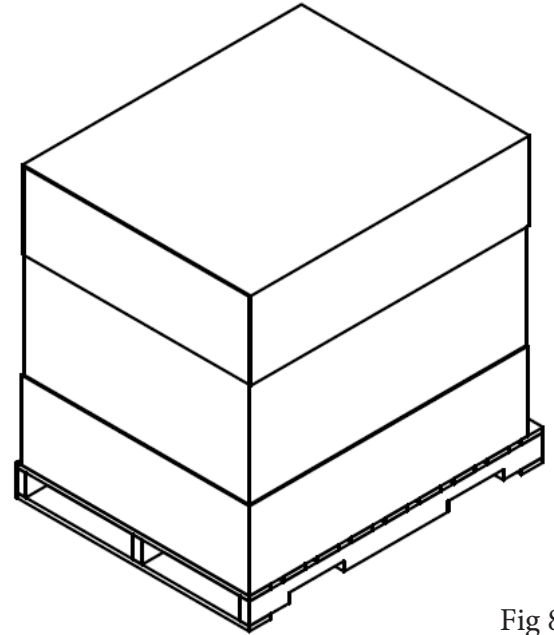

Fig 8.1
To use your Keyboard Slide simply pull the keyboard towards you until it stops (Fig 8.1). To return the Keyboard Slide into place, push the keyboard back until it locks in place (fig 8.2).
1. Inspect shipping container (Fig 8.1) for visible damage upon arrival. If transit damage is found, contact Ergonomic Products immediately. (This will expedite the corrective process).